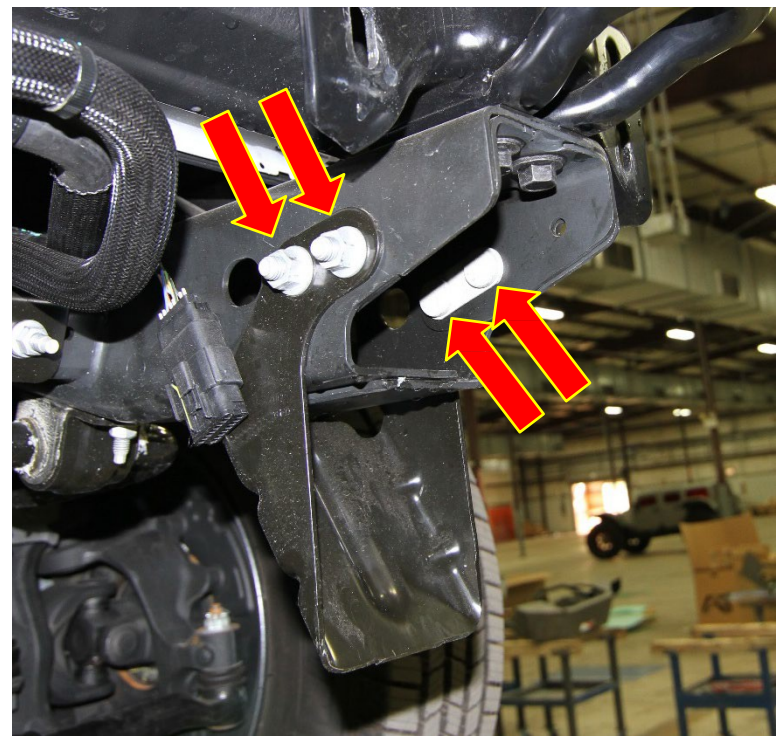

Figure 4
5. Next, using 18mm socket remove the two nuts on either side of the frame attaching frame horns to frame. Set bolt strips and nuts aside as they will be used in the installation of WARN bumper. (Fig. 4)